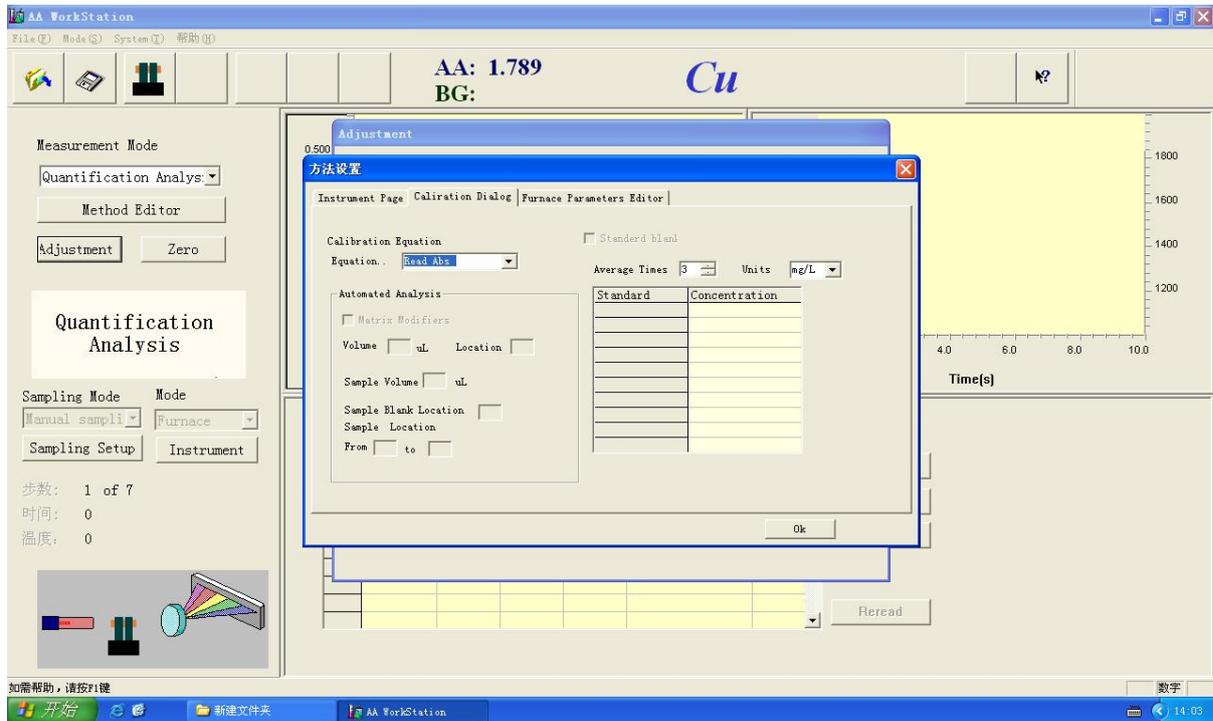

Figure 5-3
5. Select the "Read Abs" in the "Calibration Equation" (Figure 5-3)